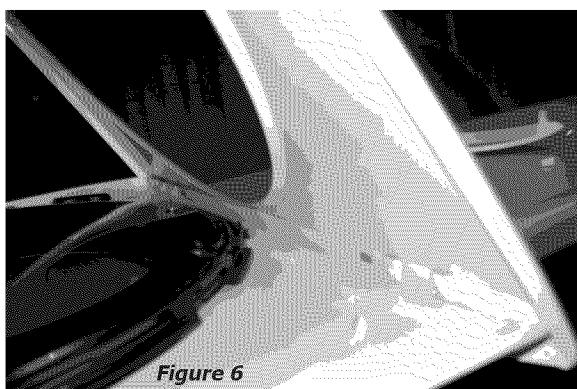

Figure 6
- 7 Separate the outer door from the inner door assembly with a putty knife or flat screw driver. (Figure 6)